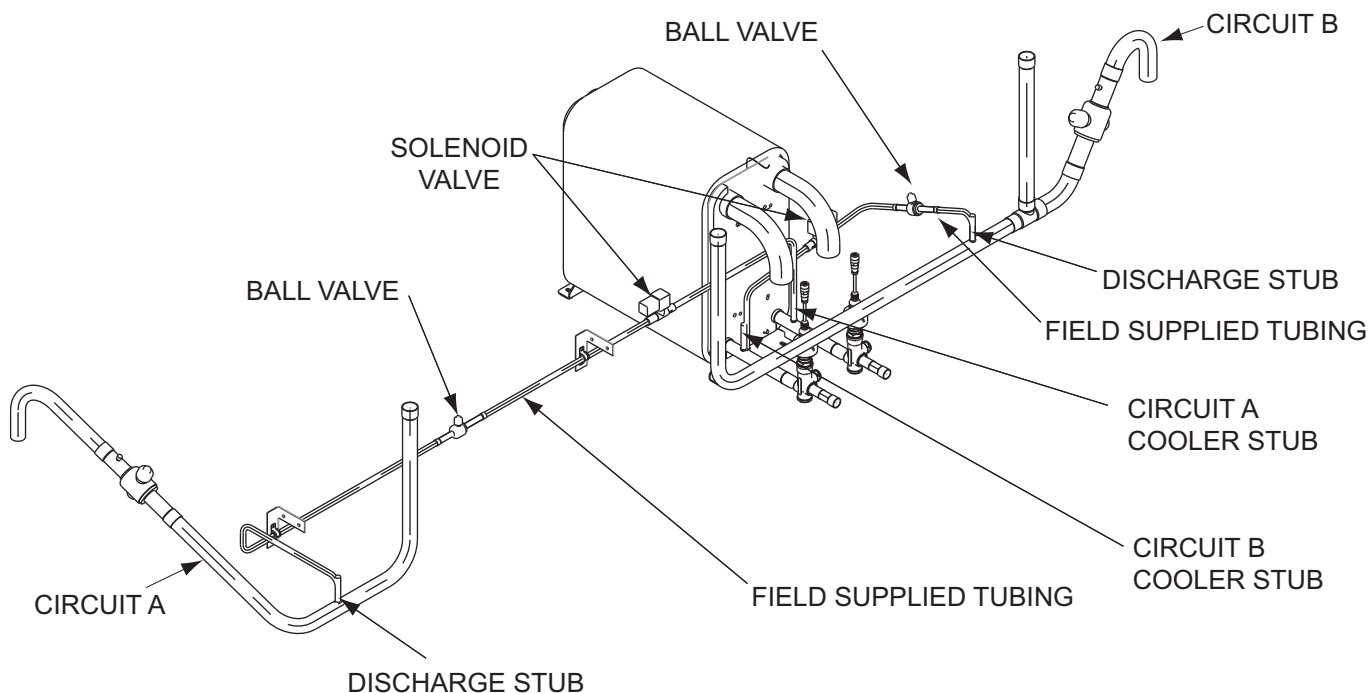

Fig. 1 — Typical Piping 30RAP070
- Locate the factory-supplied stubs on the discharge and liquid line for each circuit. See Fig. 1 and 2.
- Cut all stubs. Install 1/2 in. OD copper tubing (field supplied) as shown in Fig. 1 and 2. Connect 1/2 in. OD copper from discharge stub end to ball valve, then to solenoid valve, and lastly into the liquid line stub end.